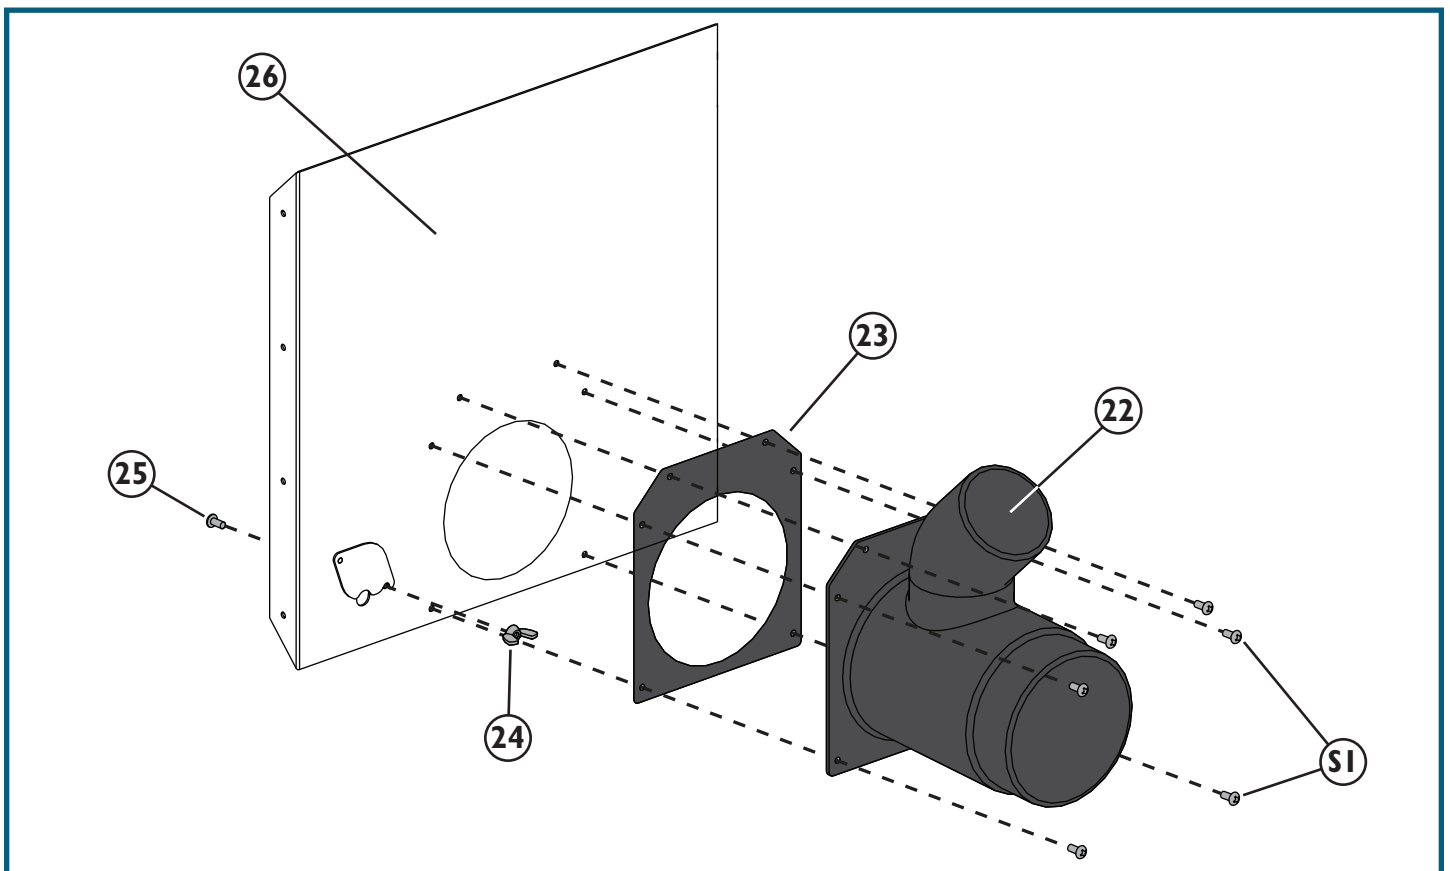

Fig. 13
5. Starting from the inside face of the Dust Bucket Rear Panel (26), fit the Dust Bucket Cord Retainer Bolt (25) through the hole next to the rotating cord retainer and thread on the Dust Bucket Cord Retainer Wing Nut (24). **Fig. 13.**
6. Position the Dust Bucket Dual Port Gasket (23) and Dual Port (22) against the Dust Bucket Rear Panel (26), align the mounting holes on each. Attach with six M4 x 3/8" Pan-Head Self-Tapping Screws (S1). **Fig. 13.**